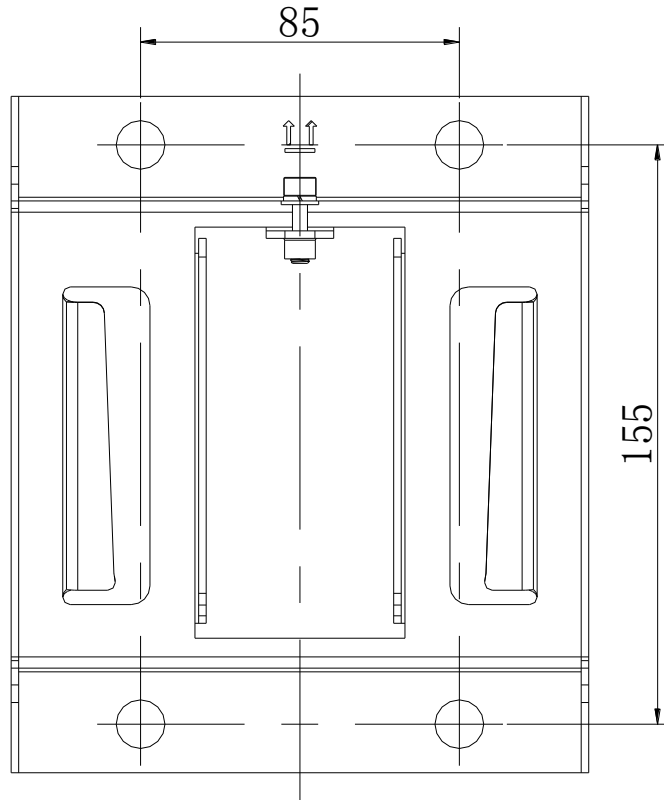

Figure 5 Wall-mounting Drilling Dimension Diagram
Step 2: take out the mounting bracket 2(RRH-3522-5832), use percussion drill to drill 4 pole of $\Phi 14$ with 65-75 mm depth, as shown in Figure 5.